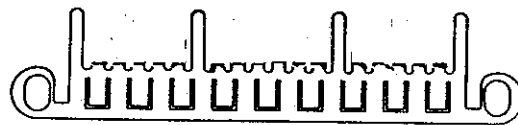

Figure 3. Example of Trimmed Type 3 Busbar
- * Figure 3 shows an example of a trimmed busbar. The fingers to be trimmed will vary with the application.